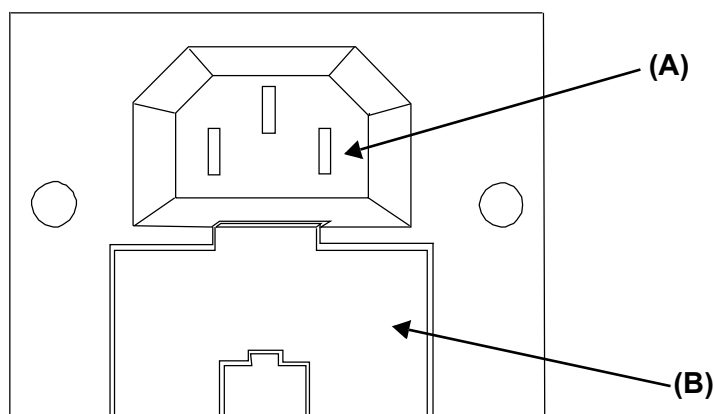

Fig. 29 - Fuses location
The fuses - Fig. 29, (B) - are located inside the mains cup socket - Fig. 29, (A) -.